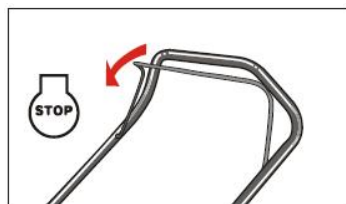

Fig.13
1. Release the brake lever to stop the engine and blade. (Fig.13)